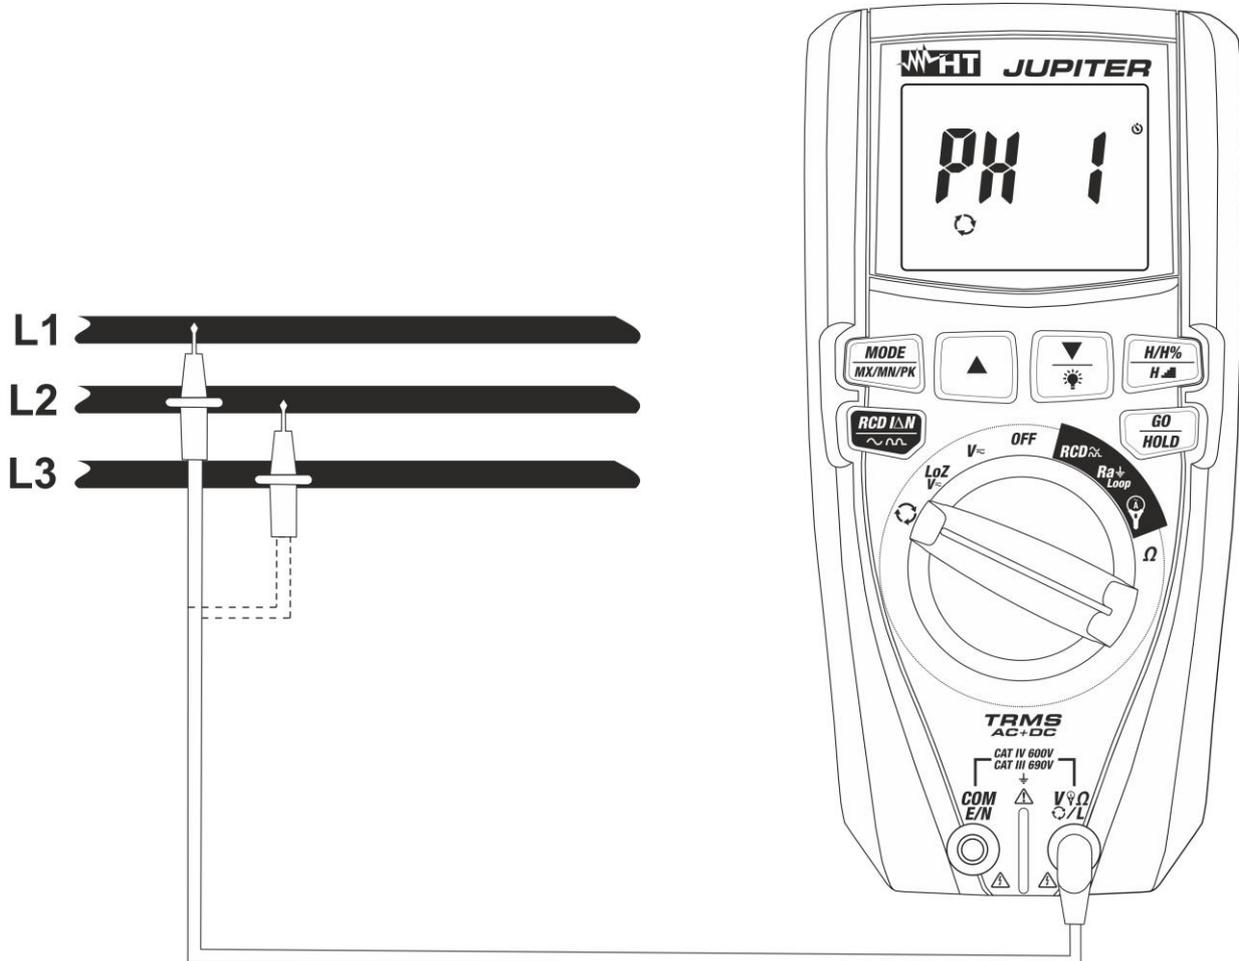
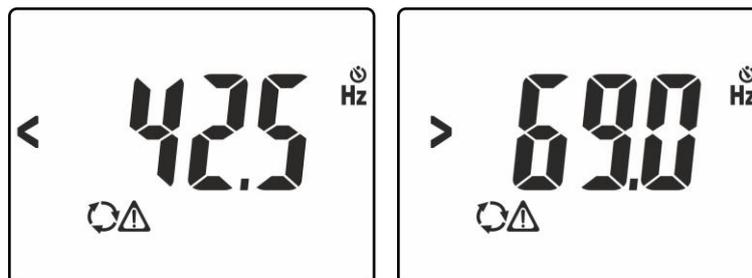
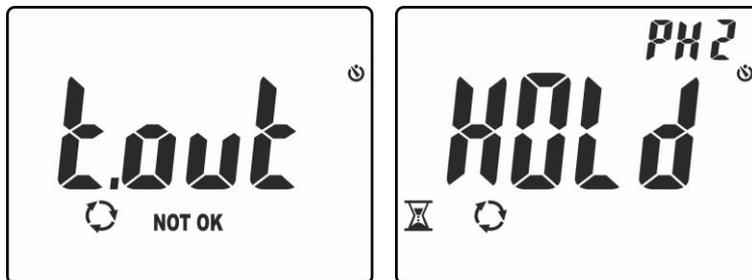

Fig. 12: Use of the instrument for phase sequence and phase concordance test
Fig. 13: Signal of voltage with wrong frequency
Fig. 15: Detecting phase L1 and waiting for phase L2
3. Position the red lead onto phase **L1** of the three-phase system to be tested (see Fig. 12). The following messages may appear on the display (see Fig. 13) to identify the presence of a voltage signal with frequency out of range **42.5Hz ÷ 69Hz**. In these conditions, the instrument does not perform the test.
6. Position the red lead onto phase **L2** of the three-phase system to be tested (see Fig. 12). In case passage between phase L1 and phase L2 takes more than **10s**, the instrument shows message “**t.out**” on the display (see Fig. 15 – left side). In conditions of correct voltage and frequency, the instrument shows message “**HOLD**”, symbols ⏳ and “PH2” and the buzzer sounds continuously, waiting for a stable voltage value on phase L2 to be detected (see Fig. 15 – right side)